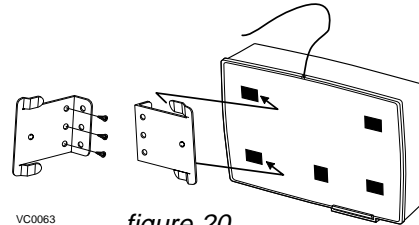

figure 20
- 2- Use screws to attach the mounting bracket (see figure 20).
- 3- Snap the receiver onto the bracket (see figure 20).